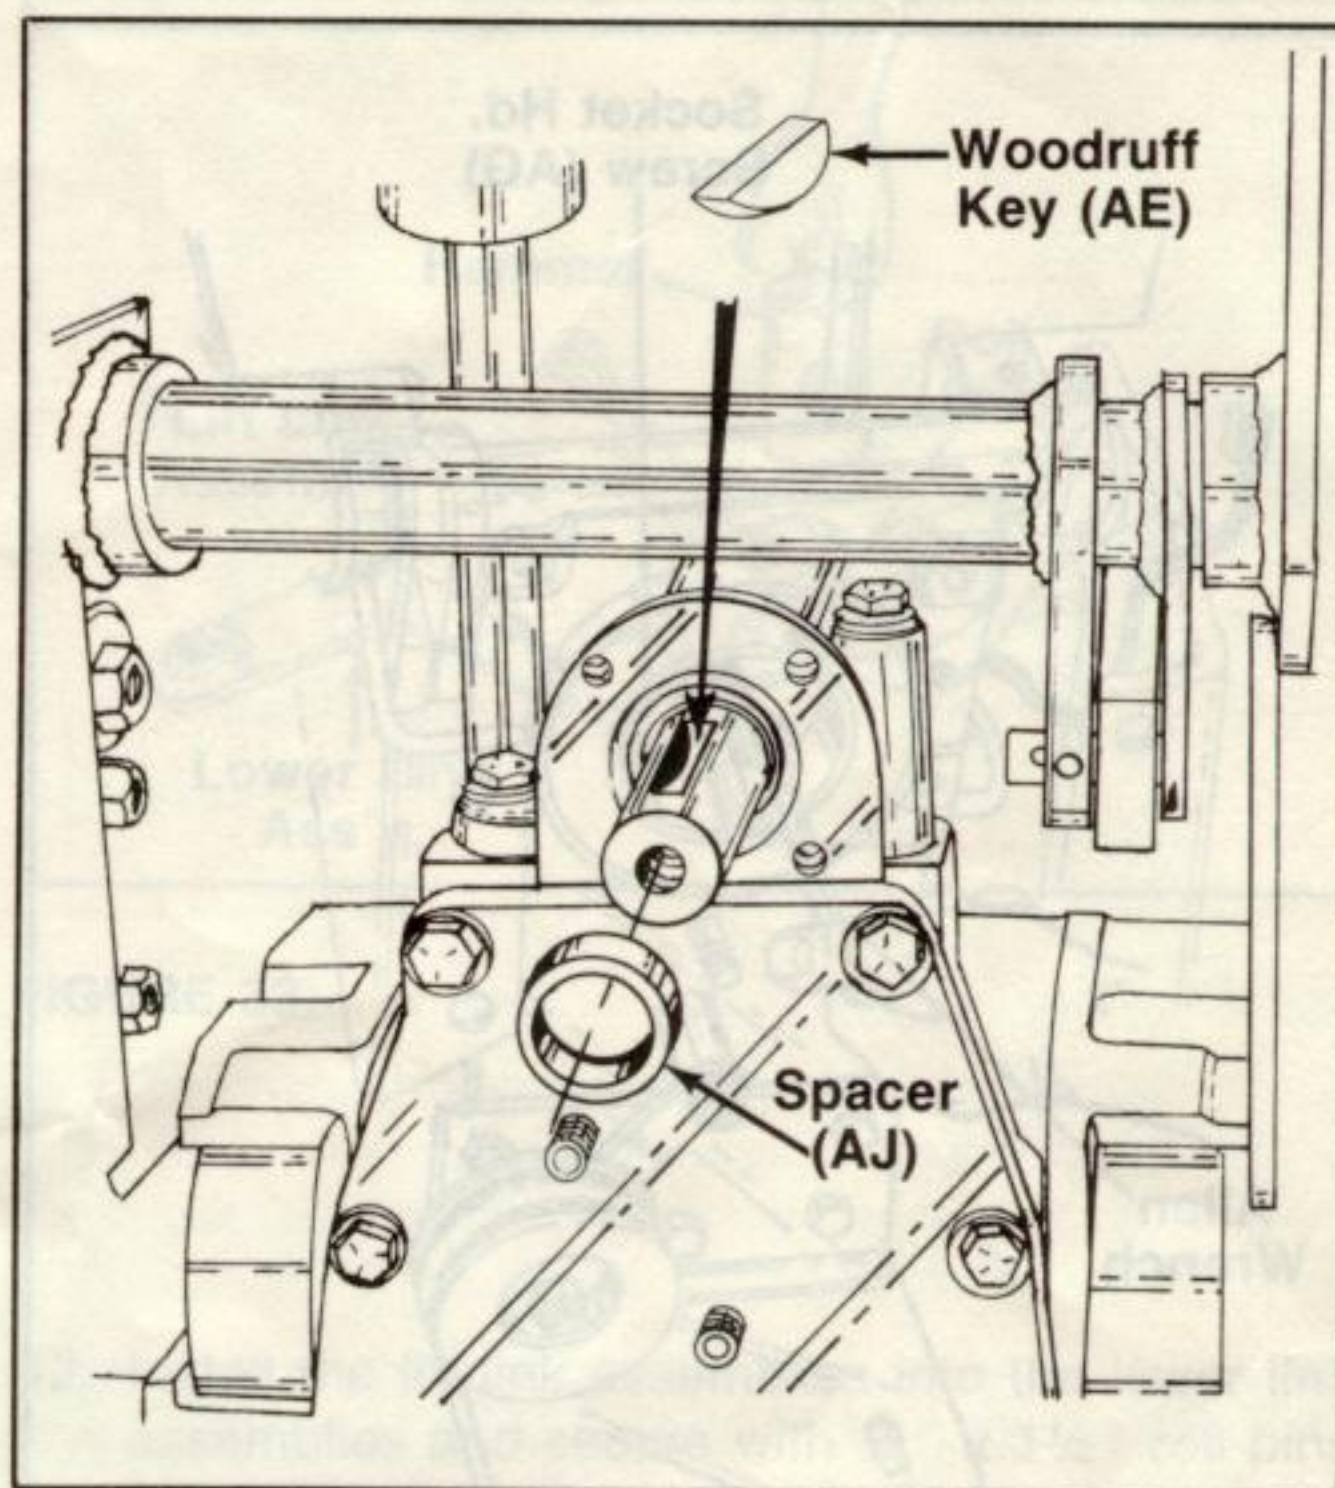

FIGURE 25.
34. Grease rear P.T.O. clutch shaft with 251 HEP grease or equivalent, then slide spacer (AJ) onto shaft and insert woodruff key (AE). See figure 25.